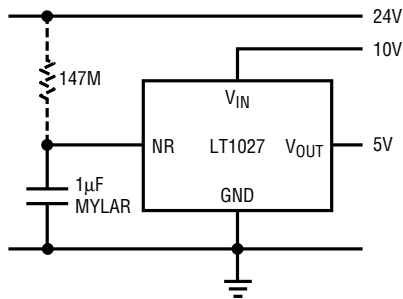

Figure 8. Board Leakage Can Wreak Havoc with a Precision Reference. Here, a 147MΩ Leakage Path to 24V Pushes the 5V Output Out of Spec
Figure 8 shows how a good reference can go bad with only a very small leakage. A hypothetical industrial control board contains an LT1027A producing 5V for various data acquisition circuits. A nearby trace carries 24V. Just 147M Ω leakage into the noise filtering pin (NR) causes a typical device to shift +200ppm, and out of spec. Clearly, a 24V circuit trace doesn’t belong anywhere near a 0.02% reference. This example is oversimplified but clearly demonstrates the potential for disaster.